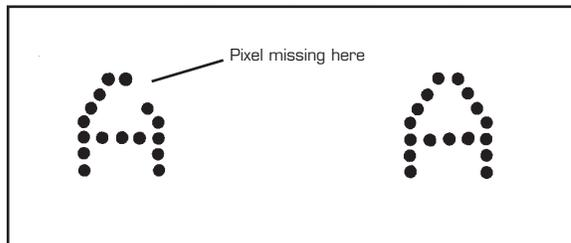

Figure 6.6
- Missing pixels (see Figure 6.6).